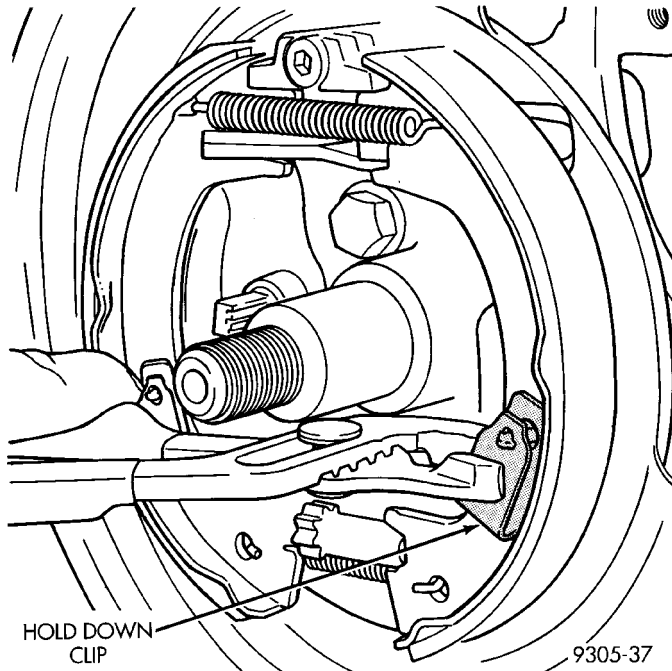

Fig. 158 Rear Brake Shoe Hold-Down Clip
(1) Remove rear disc brake caliper assembly from adapter and rotor (See Disc Brake Shoe Removal).
(2) Remove rear rotor from rear hub.
(3) Remove dust cap from rear hub.
(4) Remove rear hub and bearing assembly retaining nut and washer.
(5) Remove rear hub and bearing assembly from rear spindle.
(6) Remove rear brake shoe assembly hold down clip (Fig. 158).
(7) Turn brake shoe adjuster wheel until adjuster is at shortest length.
(6) Install rear brake shoe hold down clip (Fig. 158).
(7) Adjust brake shoes to a diameter to 171 mm (6.75 inch).
(8) Install rear hub and bearing assembly on spindle.
(9) Install **A NEW** hub and bearing assembly retaining nut. Torque the hub and bearing assembly retaining nut to 168 N·m (124 ft. lbs.).
(10) Install hub and bearing assembly dust cap.
(11) Install rear rotor.
(12) Install rear disc brake caliper on the adapter (See Brake Shoe Removal).
(13) Install wheel and tire assemblies.
(14) Tighten wheel stud nuts to 129 N·m (95 ft.lbs.).